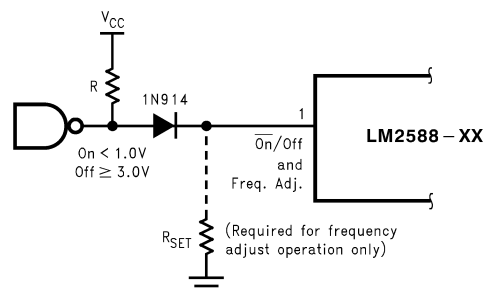

Figure 20. Shutdown Operation
- (1) All room temperature limits are 100% production tested, and all limits at temperature extremes are specified via correlation using standard Statistical Quality Control (SQC) methods.
- (2) To measure this parameter, the feedback voltage is set to a high value, depending on the output version of the device, to force the error amplifier output low and the switch off.
- (3) To measure this parameter, the feedback voltage is set to a low value, depending on the output version of the device, to force the error amplifier output high and the switch on.
- (4) To measure the worst-case error amplifier output current, the LM2588 is tested with the feedback voltage set to its low value (specified in Note 3 under the Electrical Characteristics: All Output Voltage Versions ⁽¹⁾ table) and at its high value (specified in Note 2 under the Electrical Characteristics: All Output Voltage Versions ⁽¹⁾ table).
- (5) When testing the minimum value, do not sink current from this pin—isolate it with a diode. If current is drawn from this pin, the frequency adjust circuit will begin operation (see Figure 20).
A feature of the LM2588 is its ability to be shut down using the $\overline{ON}/OFF$ pin (pin 1). This feature conserves input power by turning off the device when it is not in use. For proper operation, an isolation diode is required (as shown in Figure 20).
The device will shut down when 3 V or greater is applied on the $\overline{ON}/OFF$ pin, sourcing current into pin 1. In shut down mode, the device draws typically 56 μ A of supply current (16 μ A to V_{IN} and 40 μ A to the $\overline{ON}/OFF$ pin). To turn the device back on, leave pin 1 floating, using an (isolation) diode, as shown in Figure 20 (for normal operation, do not source or sink current to or from this pin—see the next section).
The switching frequency of the LM2588 can be adjusted with the use of an external resistor. This feature allows the user to optimize the size of the magnetics and the output capacitor(s) by tailoring the operating frequency. A resistor connected from pin 1 (the Freq. Adj. pin) to ground will set the switching frequency from 100 kHz to 200 kHz (maximum). As shown in Figure 20, the pin can be used to adjust the frequency while still providing the shut down function. A curve in the Performance Characteristics Section graphs the resistor value to the corresponding switching frequency. The table in Table 1 shows resistor values corresponding to commonly used frequencies.